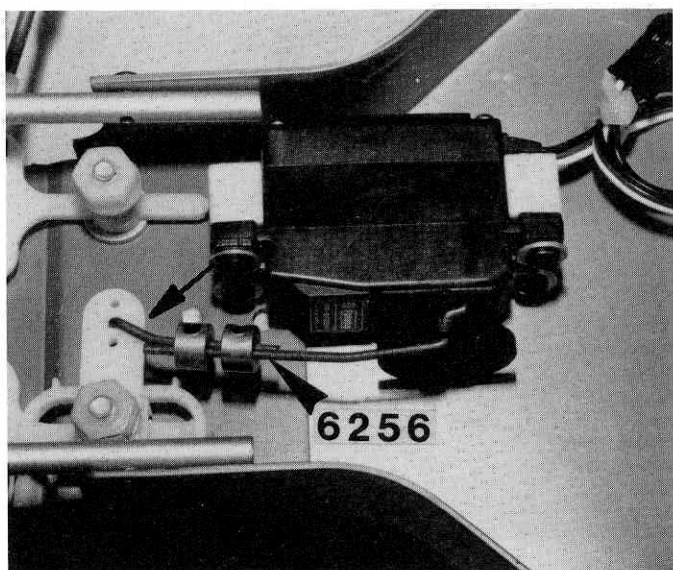

Fig. 121
□ **Fig. 121** From bag #6-2, take out the #6256 "Z" bend piano wire linkage and set collars. Locate the servo horn that comes with your radio that looks like a "+" or "-" shape but with a mounting hole in the center. You will need to cut off one or three of the arms on the servo horn depending upon which one you have. Make sure that the one arm of the horn that you are leaving is the longer one. (The round servo horn is not recommended.)